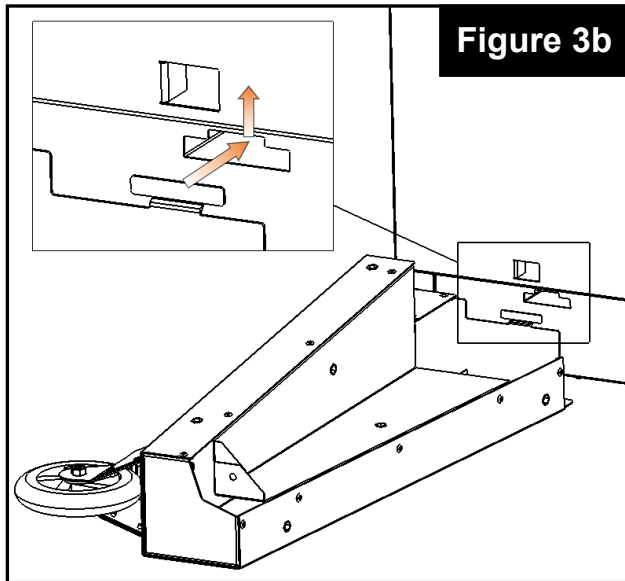
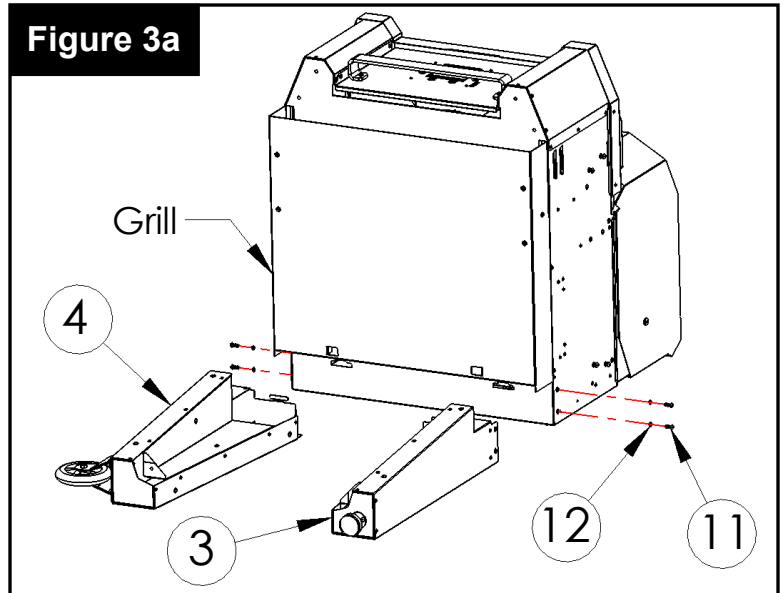
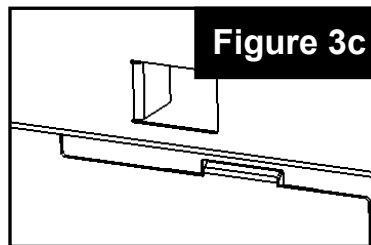

Figure 3b
Figure 3a
Figure 3c
Step 3) Lay grill on its back. Attach rear legs (Part 3 & Part 4) onto the grill using 4 screws (Part 11) and 4 lock washers (Part 12) (See **Figure 3a**). Slide and set the tab into the slot (See **Figures 3b & 3c**) before threading on the screws with lock washers.
Partially thread screws with lock washers at the top rear locations, and then slide rear panel (Part 15) onto the rear opening of the leg assembly (**See Figure 3a**).
Attach the screws with lock washers at the bottom locations (**See Figure 3b**). Fold the rear panel upward before tightening the screws (**See Figure 3c**).